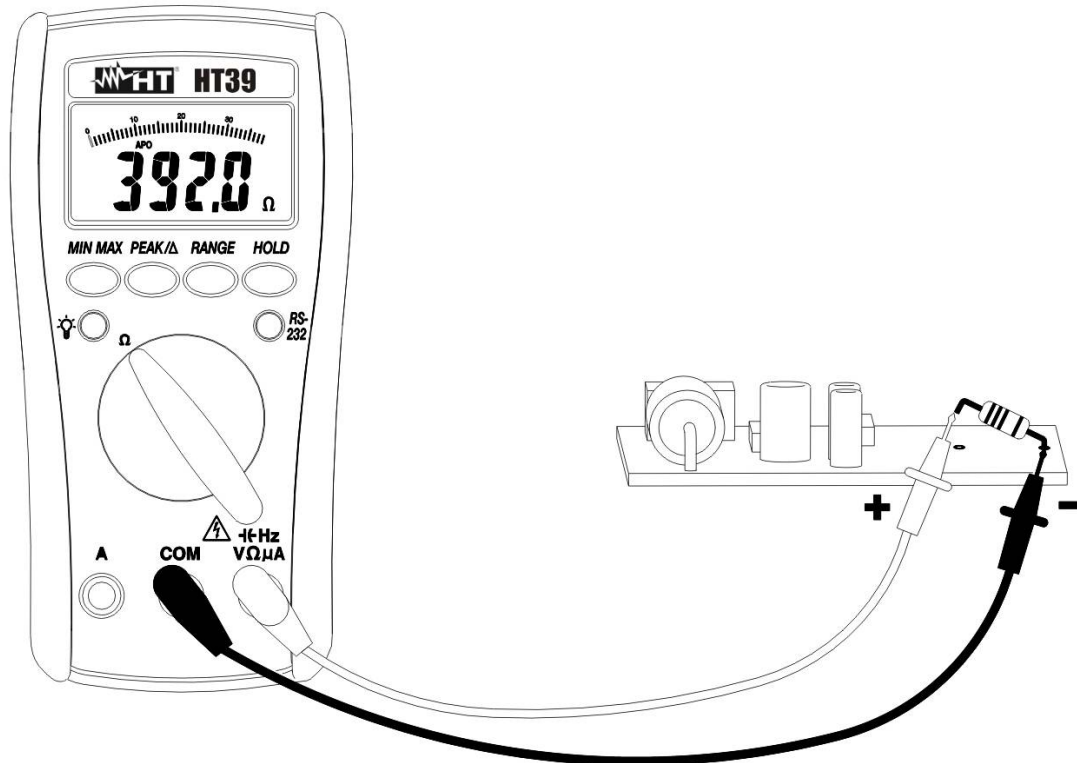

Fig. 8: Resistance measurement
2. Insert the test leads into the jacks, the red plug into $\rightarrow \text{HzV}\Omega\mu\text{A}$ jack and the black plug into **COM** jack (Fig. 8).